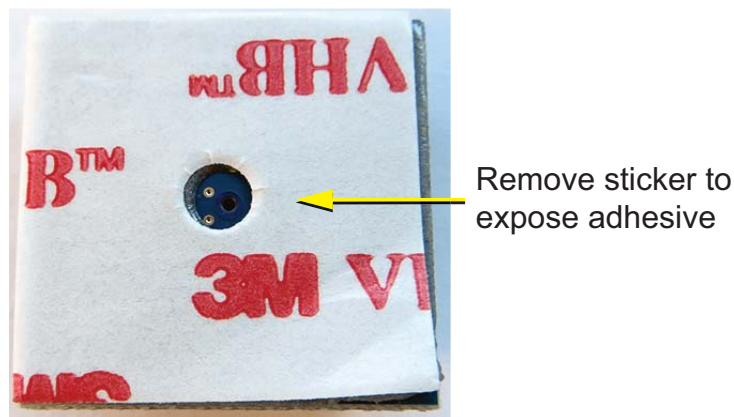

Figure 2 Remove sticker to expose adhesive on new microphone
1. Remove the sticker to expose the adhesive on the flat side of the microphone board as shown in Figure 2.